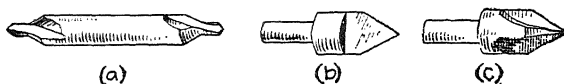

FIG. 69.
1 *Combination Drill and Countersink* (a, Fig. 69).—A tool which combines the center drill and the 60-deg. center reamer (or countersink). It is more efficient and has largely superseded the small drill, and the center reamers shown in b and c.
**87. Drilling and Reaming the Center.**—The combination drill and countersink (*a*, Fig. 69) is the correct tool to use for making the center hole.